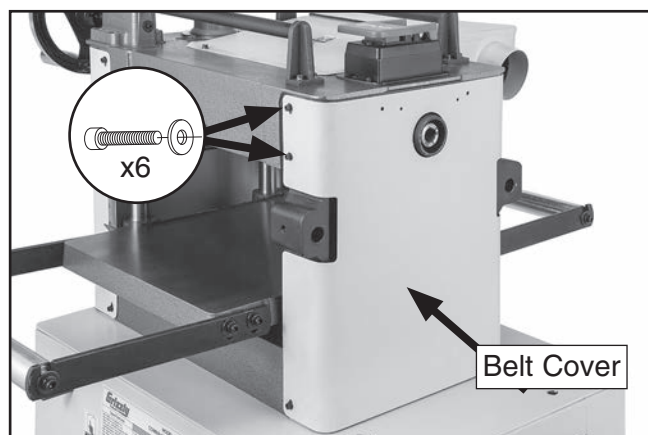

Figure 53. Location of belt cover.
7. Remove (6) cap screws securing belt cover plate to planer cabinet (see **Figure 53**), then remove belt cover.